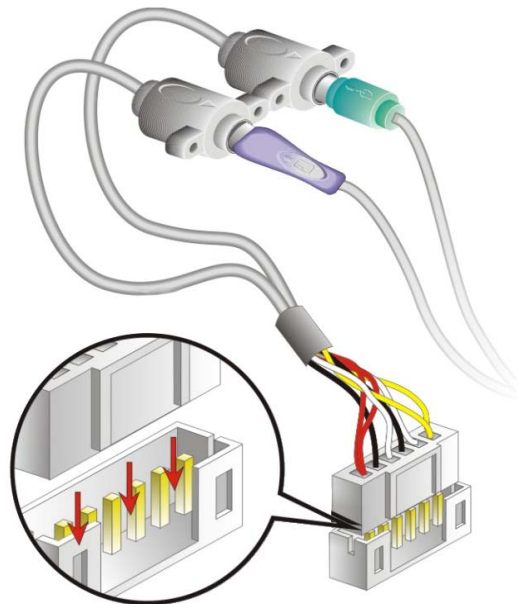

Figure 5-11: Keyboard/mouse Y-cable Connection
- Step 2: Align the connectors.** Correctly align pin 1 on the cable connector with pin 1 on the EX-9945GSE 5.25-A keyboard/mouse connector. See **Figure 5-11**.
- Step 3: Insert the cable connectors** Once the cable connector is properly aligned with the keyboard/mouse connector on the EX-9945GSE 5.25-A, connect the cable connector to the on-board connectors. See **Figure 5-11**.